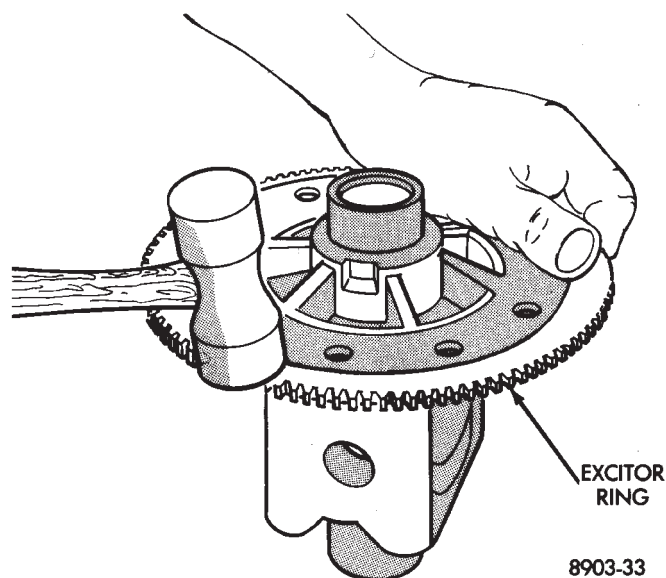

Fig. 18 Exciter Ring Removal
(5) The exciter ring can be removed with a soft-faced hammer (Fig. 18). Discard exciter ring after removal.